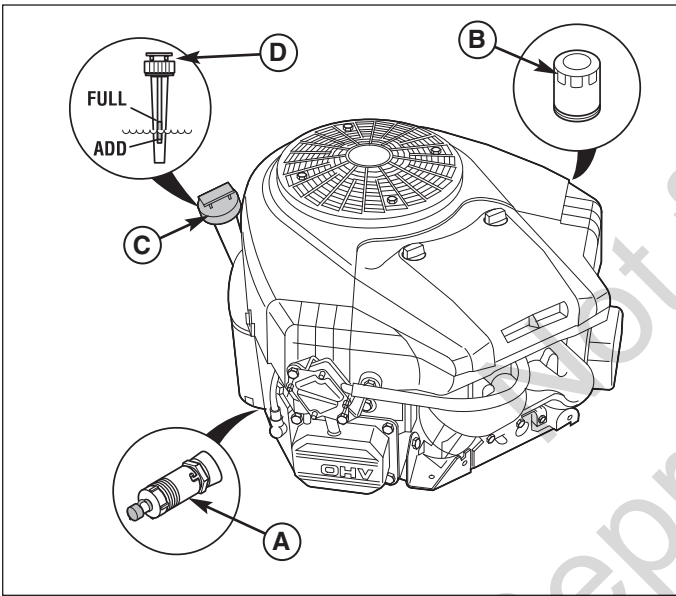
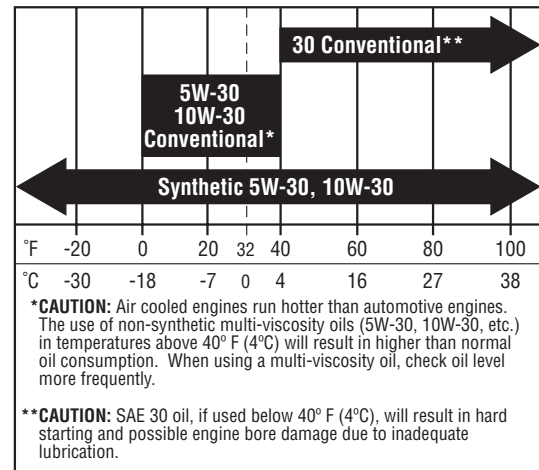

Figure 22. Check & Fill Engine Oil
Figure 24. Recommended Engine Oil
2. Clean the area around the dip stick (C, Figure 22).
3. Remove the dip stick (C) and clean it with a paper towel.
4. Insert the dip stick (C) back into the engine. Thread the cap back onto the tube.
5. Remove the dip stick and read the oil level. The oil level should be between the "FULL" and "ADD" marks (D). If not, add oil according to the oil recommendations chart (Figure 24).
1. Place a suitable container with a 4 quart capacity under the oil drain valve (A, Figure 22).
2. Loosen or remove the dip stick (C, Figure 22).
1. Clean the area around the dip stick (C, Figure 22) and oil drain valve (A).
3. Remove the oil filter (B). Discard the filter.